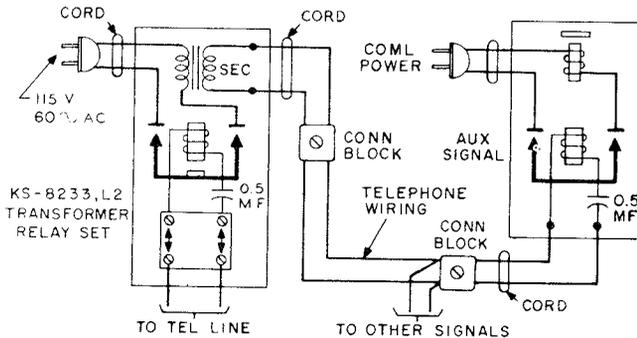

Fig. 4 - KS-8233, List 2 Transformer Relay Set Connections
2.04 The KS-8233, List 2 Transformer Relay Set has been used to connect several signals to one telephone line, as shown in Fig. 4, and may be encountered in some existing installations.